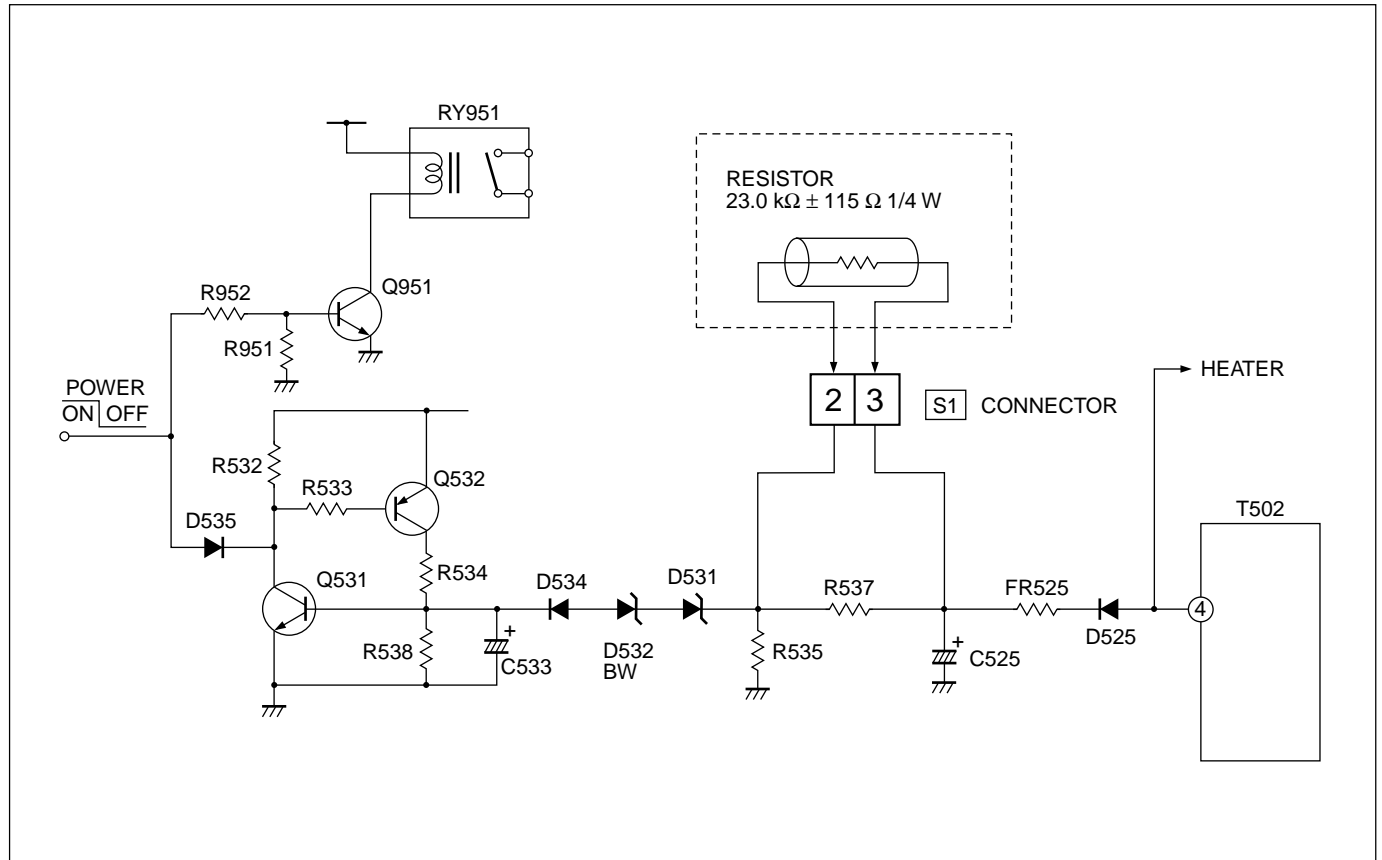

Fig. 1
- (1) Turn the POWER SW ON.
- (2) As shown in Fig. 1, set the resistor (between [S1] connector [2] & [3]).
- (3) Make sure that the screen picture disappears.
- (4) Temporarily unplug the power cord.
- (5) Remove the resistor (between [S1] connector [2] & [3]).
- (6) Again plug the power cord, make sure that the normal picture is displayed on the screen.